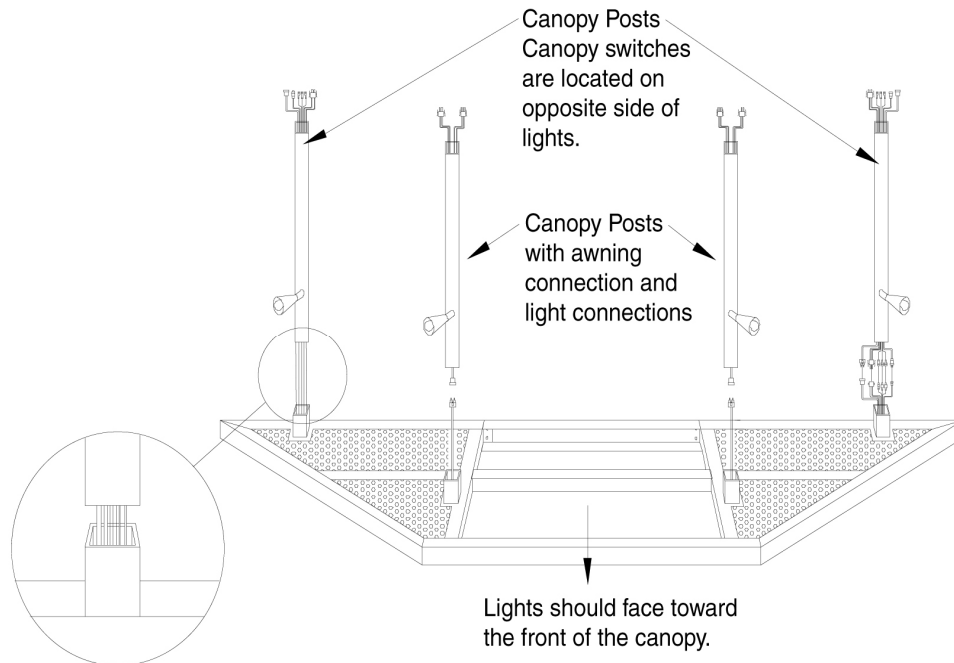

Figure 27. Canopy mounting tabs and support sleeves
4. After making all the wire connections, slide each canopy support post into the support sleeves (located on the canopy). Gently tuck the cables into the support post, making sure not to pinch the cables (Figure 27).